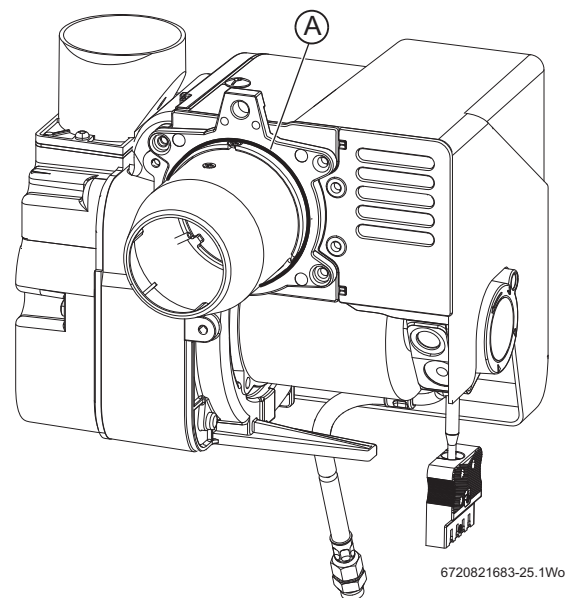

Fig. 88 18/25 and 25/32 Burner O-ring seal shown
- ▶ Always check that the O-ring seal (Fig. 88 item A) is in good condition before fitting the burner. Replace the O-ring seal if defective.